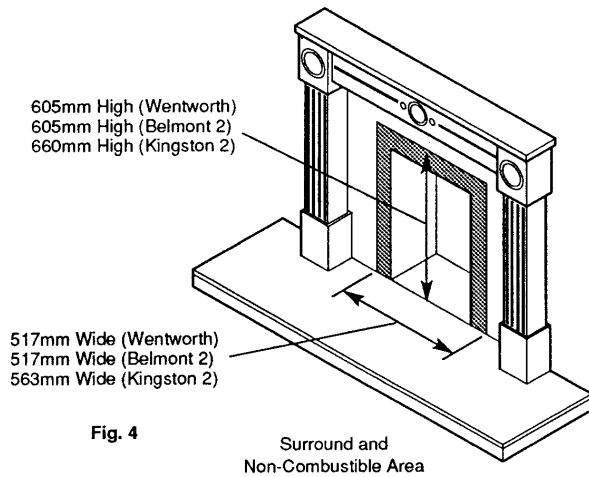

Fig. 4
3. The fireplace must have a flat vertical surface measuring 605mm (23 ¹³/₁₆ in) high by 517mm (20 ¹/₈ in) wide (Wentworth, Belmont 2) or 660mm (26in) high by 563mm (22 ⁵/₃₂ in) wide (Kingston 2), centrally placed about the opening. This allows an effective seal to be made between the wall and fire. **Also this area must be of non-combustible material.** If a fire surround is to be fitted its rear section must meet the same requirements. Any gaps between the wall and surround must be sealed (Fig. 4).